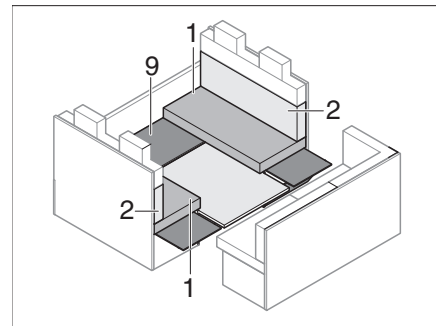

Fig. 194 During conversion
- Lay the base (Fig. 194,9) back on.